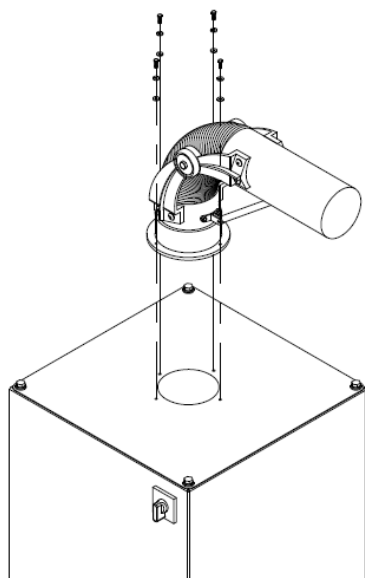

FIG. 1
5. If equipped, install the arm assembly onto the base of the unit (Fig. 1).